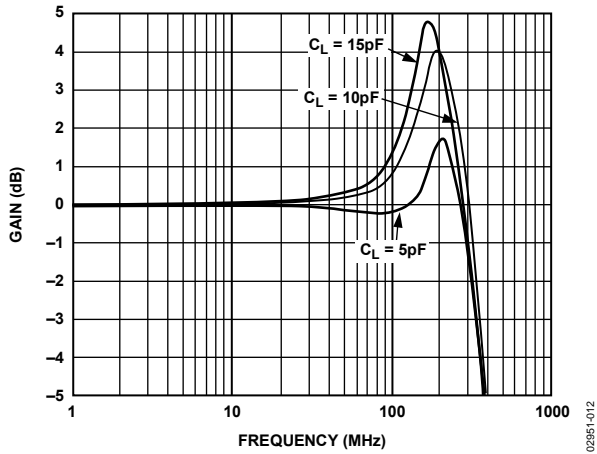
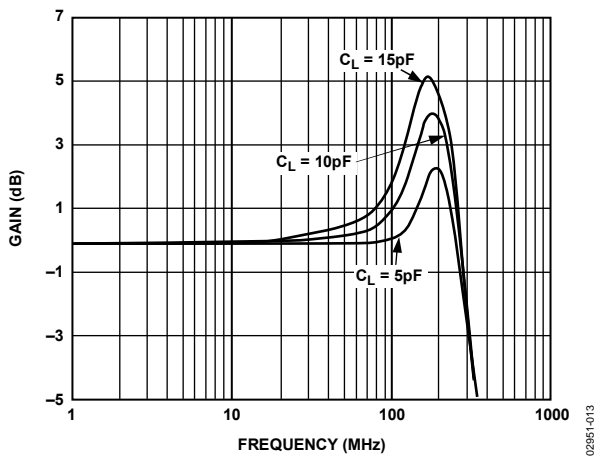
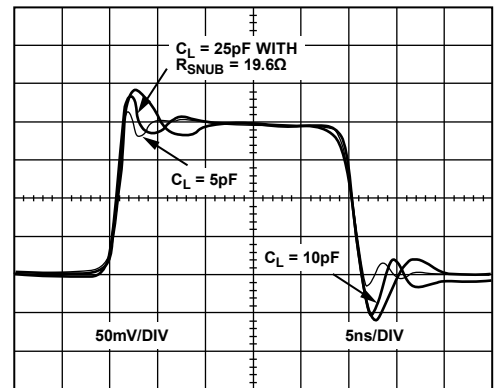
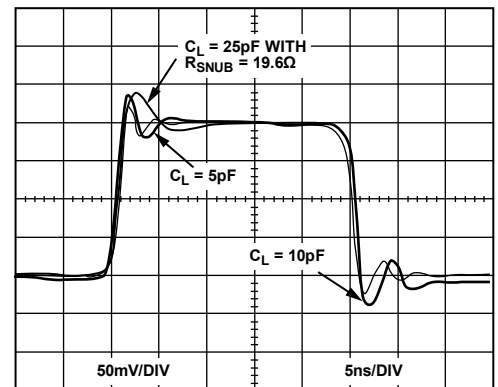

Figure 12. Small Signal Frequency Response for Various  $C_L$ ,  $V_{OUT} = 500\text{ mV p-p}$ ,  $V_S = \pm 5\text{ V}$ ,  $G = +1$
Figure 13. Small Signal Frequency Response for Various  $C_L$ ,  $V_{OUT} = 500\text{ mV p-p}$ ,  $V_S = 5\text{ V}$ ,  $G = +1$
Figure 27. Small Signal Transient Response for Various  $C_L$ ,  $V_S = 5\text{ V}$
Figure 28. Small Signal Transient Response for Various  $C_L$ ,  $V_S = \pm 5\text{ V}$
- Put a small value resistor in series with the output to isolate the load capacitor from the output stage of the amplifier, see Figure 12, Figure 13, Figure 27, and Figure 28.